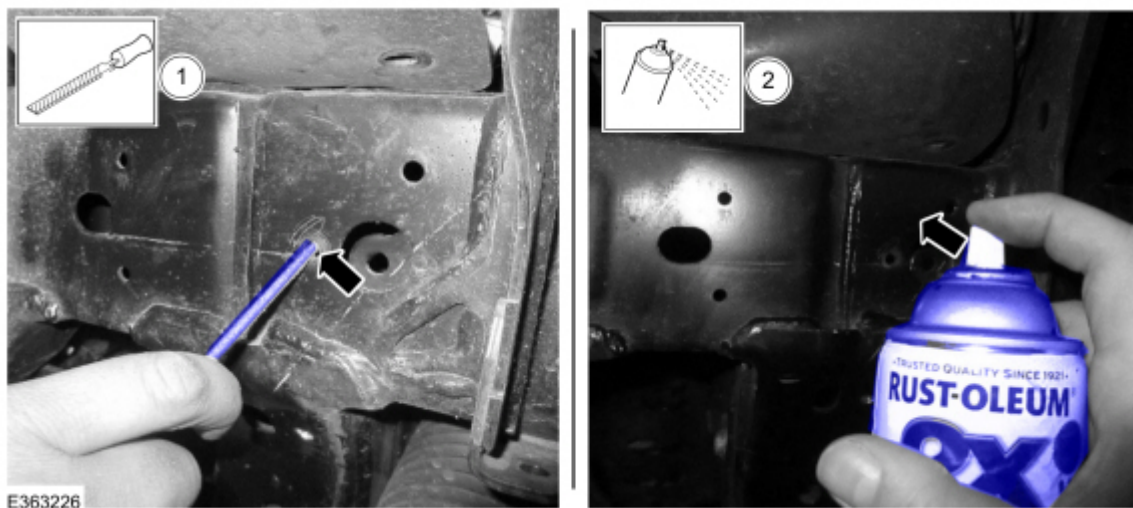

Figure 9
**11.** De-burr and apply anti-corrosion paint to the holes and allow to dry. (Figure 9)